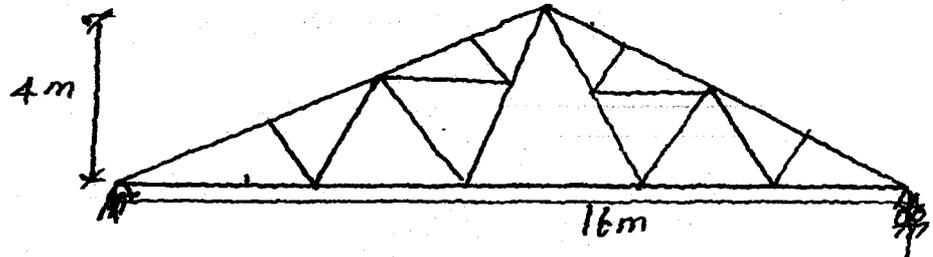

Fig. 1
11. (a) Determine the nodal forces in a roof truss shown in Fig. 1 due to dead, live and wind loads. Spacing of the roof truss is 8 m. Dead weight of the roofing sheet is 171 N/m². The wind load normal to the truss is 950 kN/m². (16)